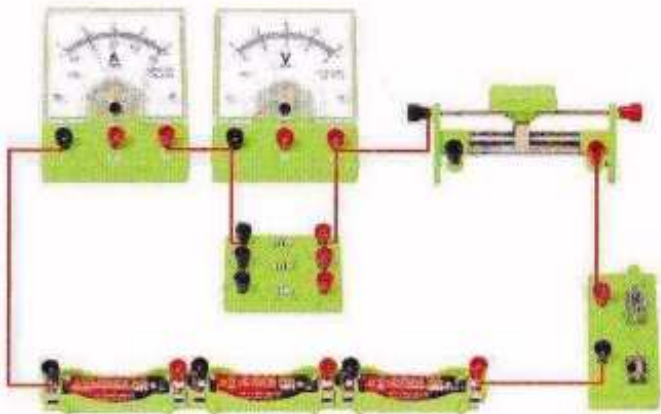

Figure 16-1
- 1. As shown in Figure 16-1, we study the current passing through the fixed resistor R (let $R = 10\text{ ohms}$ remain unchanged), change the voltage across the fixed resistor by changing the sliding rheostat (it is best to measure the voltage change several times to an integer multiple), and at the same time measure and record the current passing through the fixed resistor to analyze the relationship between current and voltage.
- 2. Also use the circuit shown in Figure 16-1, connect 5 ohm and 15 ohm resistors respectively, adjust the sliding rheostat each time to keep the voltage across R unchanged, measure and record the change in current in the circuit at the same time, and summarize the relationship between current and resistance.